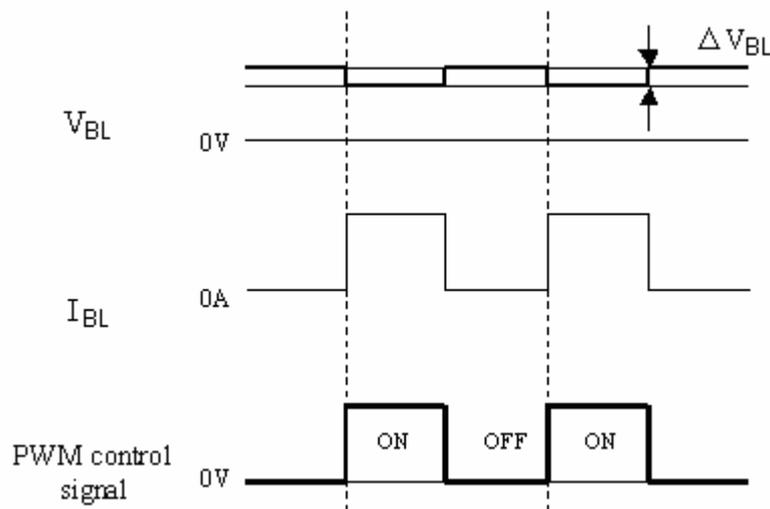

Fig.4 Brightness control voltage.
- c) Brightness control voltage is switched for "ON" and "OFF", as shown in Fig.4. Voltage difference generated by this switching,  $V_{BL}$ , may affect a sound output, etc. when the power supply is shared between the inverter and its surrounding circuit. So, separate the power supply of the inverter circuit with the one of its surrounding circuit.